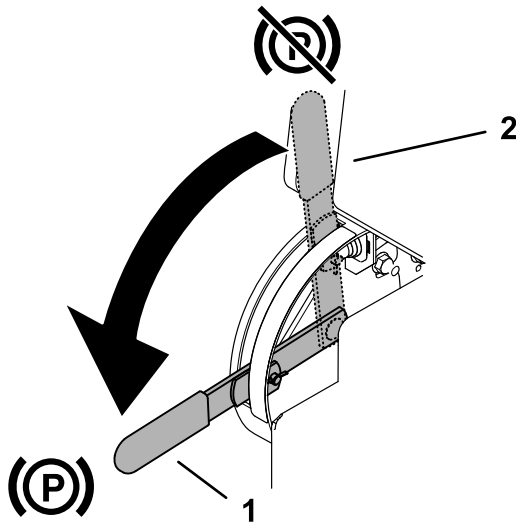

Figure 5
- To engage the parking brake, rotate the lever down (Figure 5).
- To release the parking brake, rotate the lever up (Figure 5).